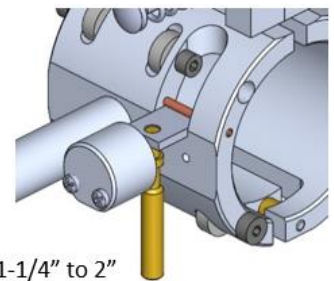

Fig 3
3. Turn the peeler in the direction indicated by the label on the housing. The peeler is self-feeding and will move in the direction indicated on the picture (Figure 3)
4. Slide the Lever and Blade into the Cap and align both with the appropriate slots in the Cap (Fig 3).